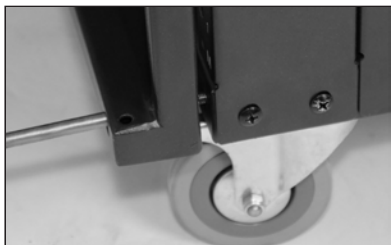

Fig. 9
Step 6: At bottom of Door Frame, install Screws through holes (Fig. 9).